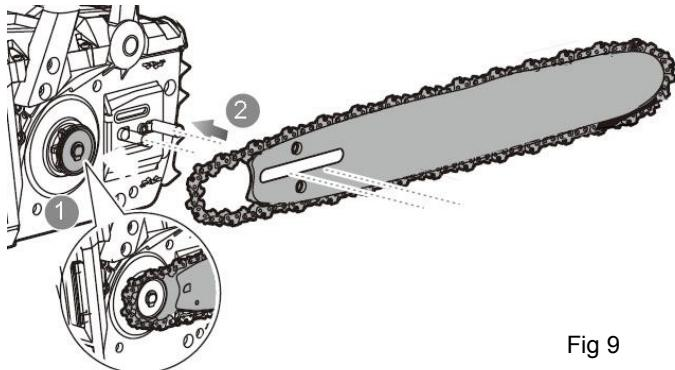

Fig 9
- Fit the bar flush against the mounting surface so that the bar studs are in the long slot of the bar. (Fig 9)